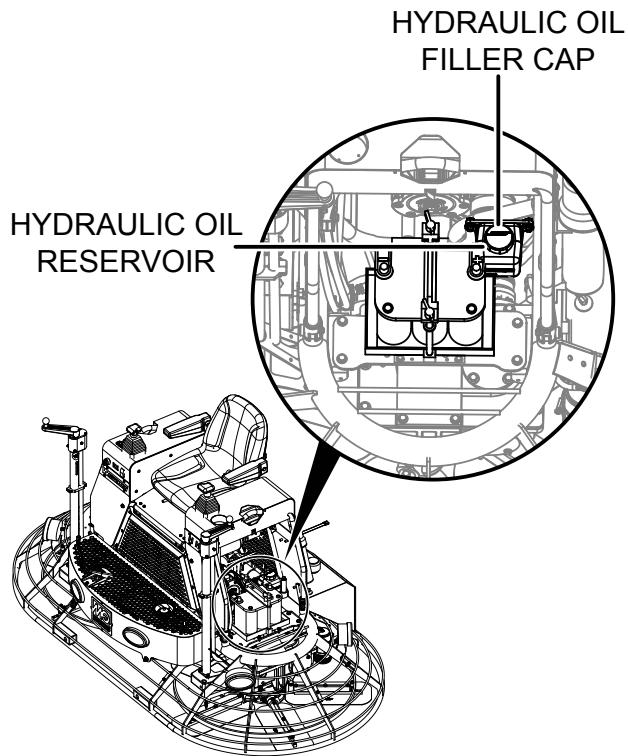

Figure 12. Hydraulic Oil Reservoir
- Check the hydraulic oil condition through the hydraulic oil reservoir (Figure 12) next to the battery. Replace the hydraulic oil if dirty or if bubbles are present.